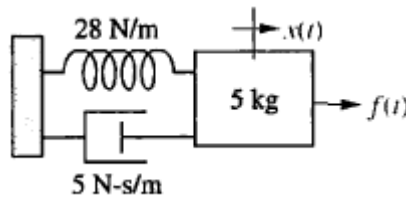

Figure 3
- 2A. For the system shown in Figure 3, find ω_n , ω_d , ε , %OS, T_s , T_p